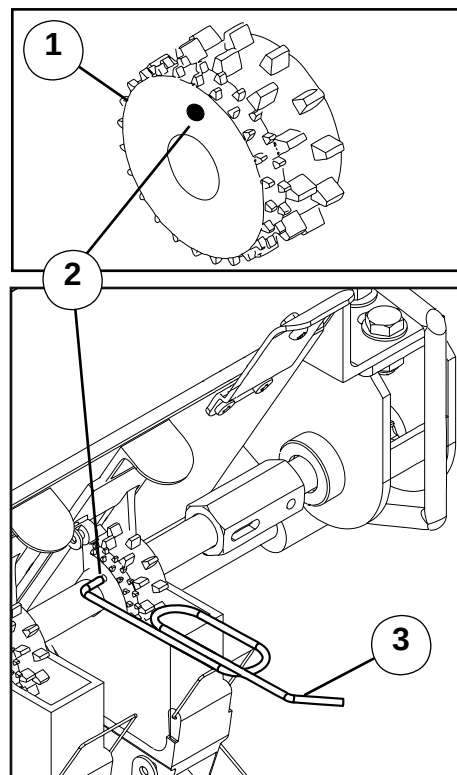

Fig 16
For sowing small seeds the Renovator Drill is equipped as standard with a combined normal and small seed metering wheel (1). During grain sowing and other larger varieties of seed both the large and small seed metering wheels are coupled and both rotate. In order to convert the seed drill to sow fine seed insert the crank handle and rotate clockwise until the holes (2) of the small seed wheel are visible (Fig 16)